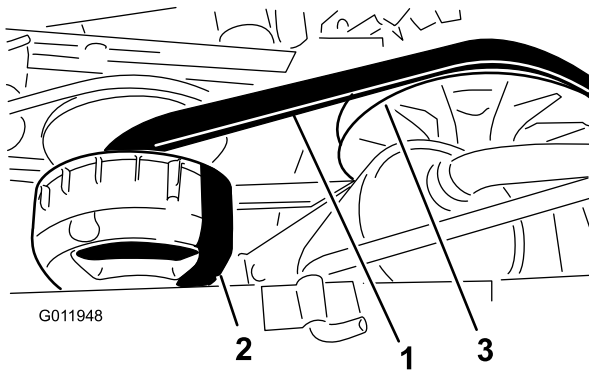

Figure 46
3. Rotate and inspect the belt (Figure 46) for excessive wear or damage. Replace the belt if necessary.
1. Rotate and route the belt over the secondary clutch (Figure 46).
2. Remove the belt from the primary clutch (Figure 46).